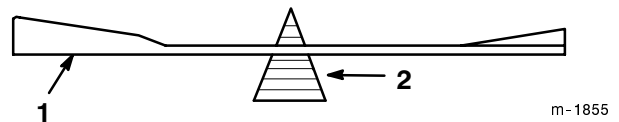
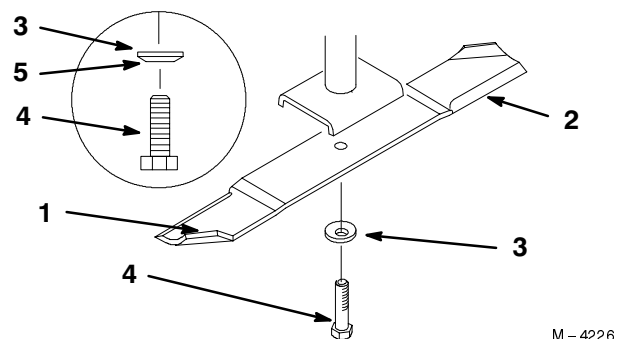

Figure 33
Figure 34
1. Hold the blade end using a rag or thickly-padded glove. Remove the blade bolt, spring disk and blade from the spindle shaft (Fig. 34).
2. Check the balance of the blade by putting it on a blade balancer (Fig. 33). If the blade stays in a horizontal position, the blade is balanced and can be used. If the blade is not balanced, file some metal off the end of the sail area only (Fig. 34). Repeat this procedure until the blade is balanced.
1. Install the blade onto the spindle shaft (Fig. 34).
2. Install the spring disk and blade bolt (Fig. 34). **Torque the blade bolt to 85-110 ft-lb (115-150 N•m).**